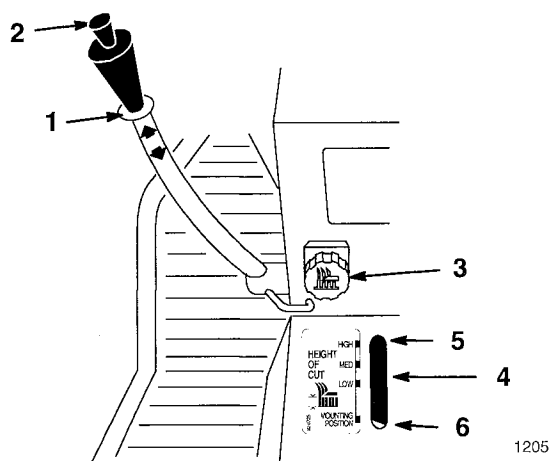

Figure 15
The attachment lift lever (Fig. 15) is used to raise and lower various attachments.
The Dial-A-Height control (Fig. 15) is used to limit the downward travel of the attachment. The Dial-A-Height knob is rotated to change the location of this stop, up or down.
1. Raise the attachment lift lever: Refer to Raising Attachments. In the raised, position the Dial-A-Height knob (Fig. 15) can be rotated to change the stop location. Turn clockwise to raise and counterclockwise to lower the height of the attachment.
2. The Dial-A-Height indicator (Fig. 15) will show the change, high to low, in attachment lift height as adjustment is made.